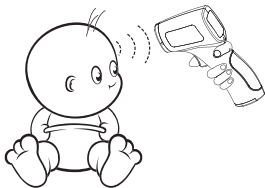

Fig.3
2. Measuring a temperature in a distance of 2" to 2.4" (5 to 6 cm) away from the patient's forehead. (Fig.3)